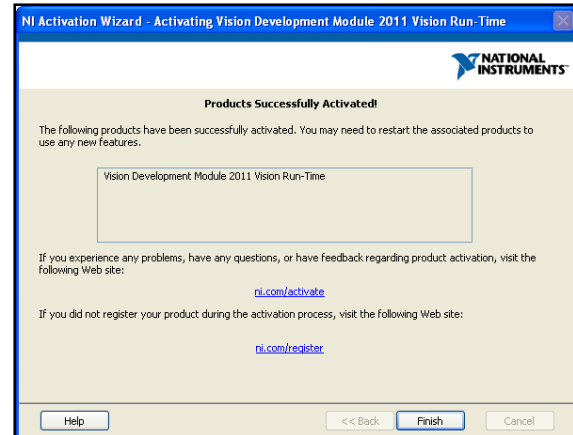

Figure 8. Successful activation screen.
10. After entering the Serial Number and activating the software, select *FINISH* (Fig. 8).